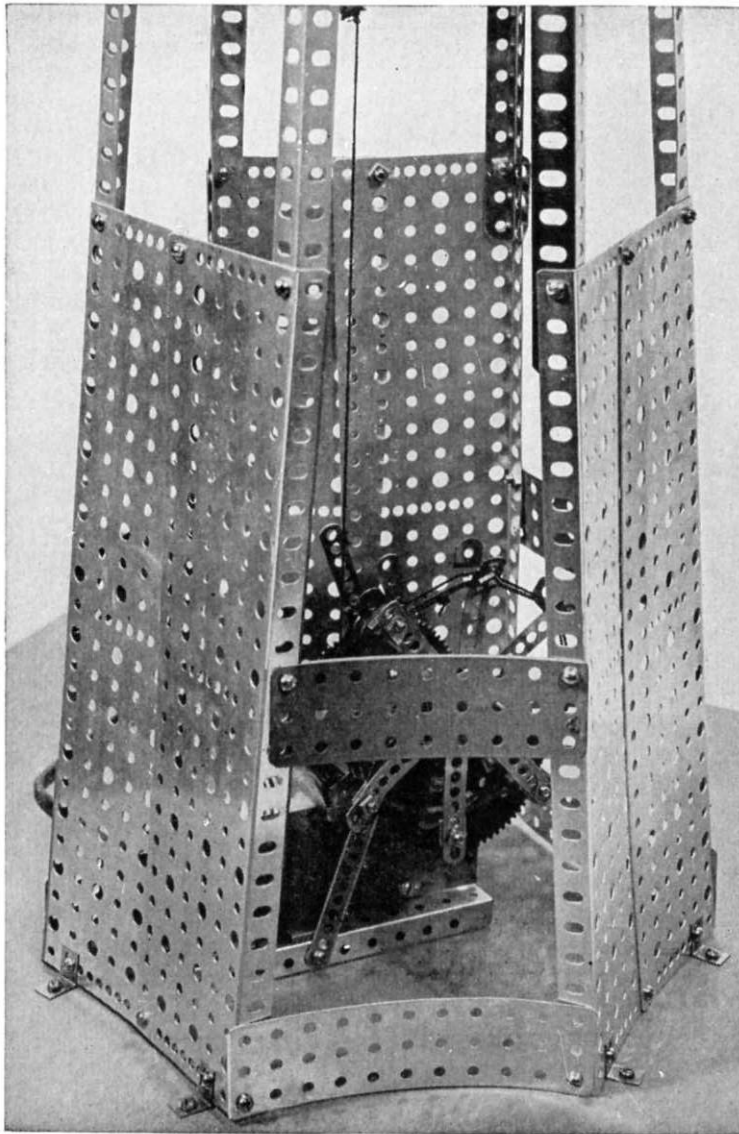

FIGURE 2
work up with sub-assemblies of each section. A structure is only as good as its foundation. Figure 2 shows the foundation for the "Jump". It is built with 6 (MN) 12" base plates in groups of twos. The two base plates are overlapped one hole at the bottom and two holes at the top. These three base plate assemblies are held together at the bottom with (MF) 1" x 5" base plates and at the fourteenth hole from the bottom with (ME) 1" x 4" base plates. The model is shown fastened to a wood base with (CH) right angles.